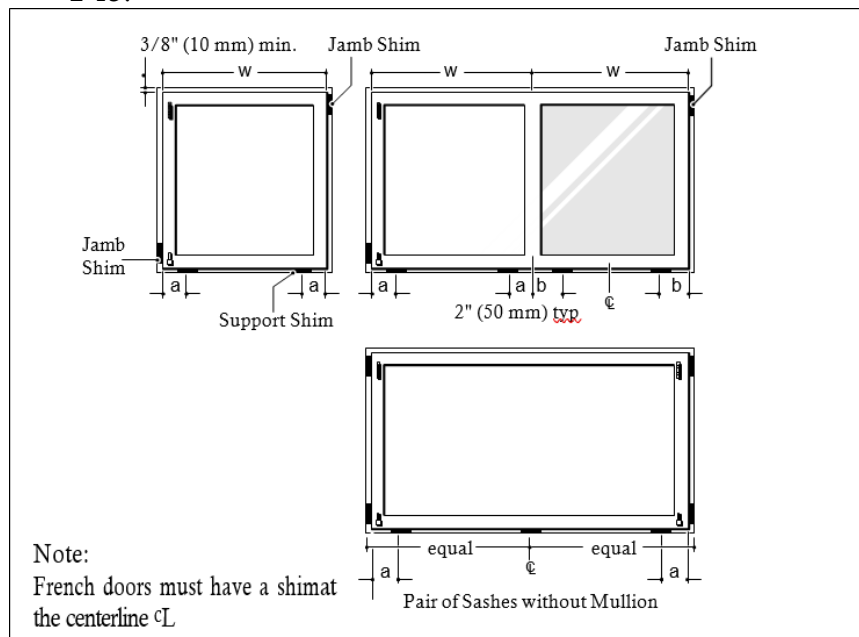

Figure 2-11. Where to put the frame support shims and jamb shims – interior view
- 4.4 Shim sill of the frame with 4" x 1 1/2" shims (See fig. 2-11). **Adjust the height of the shims to obtain a level sill**, ensuring you have 3/8" gap at the head (inter-storey deflection not to exceed $\pm 3/8$ ").